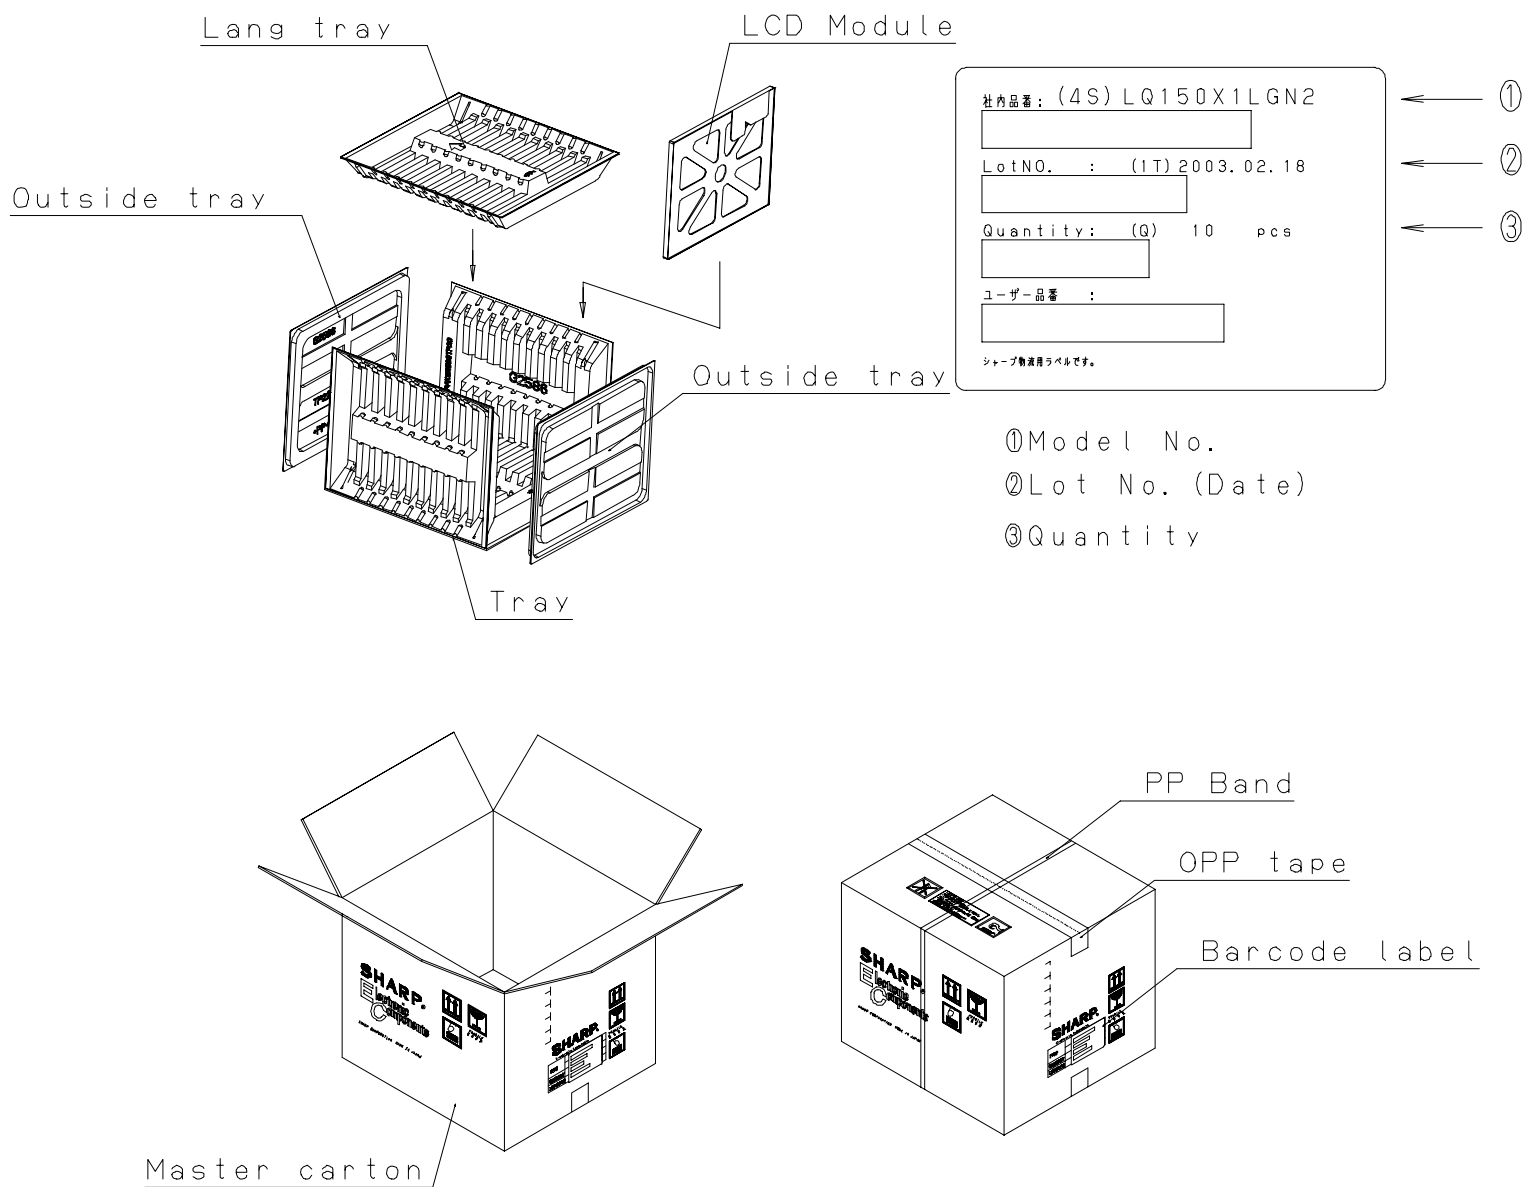

Fig.3 Packing Form (LQ150X1LGN2)
- e) Packing form is shown in Fig.3